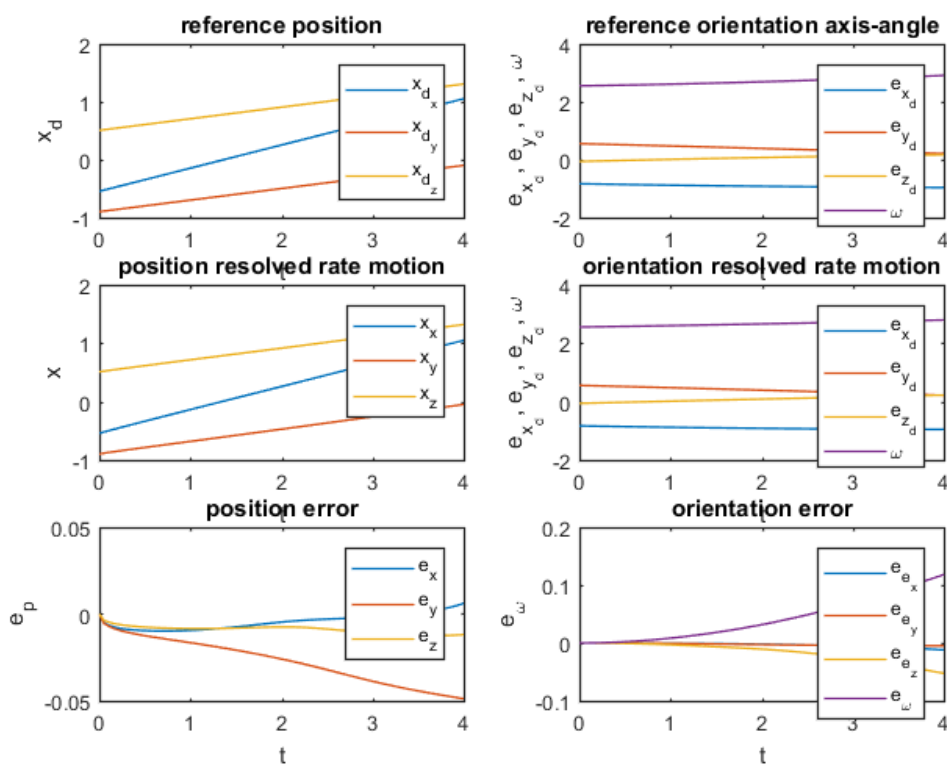

Figure 2: Reference trajectory in task space
- Figure 2 for tasks 14, 16,17